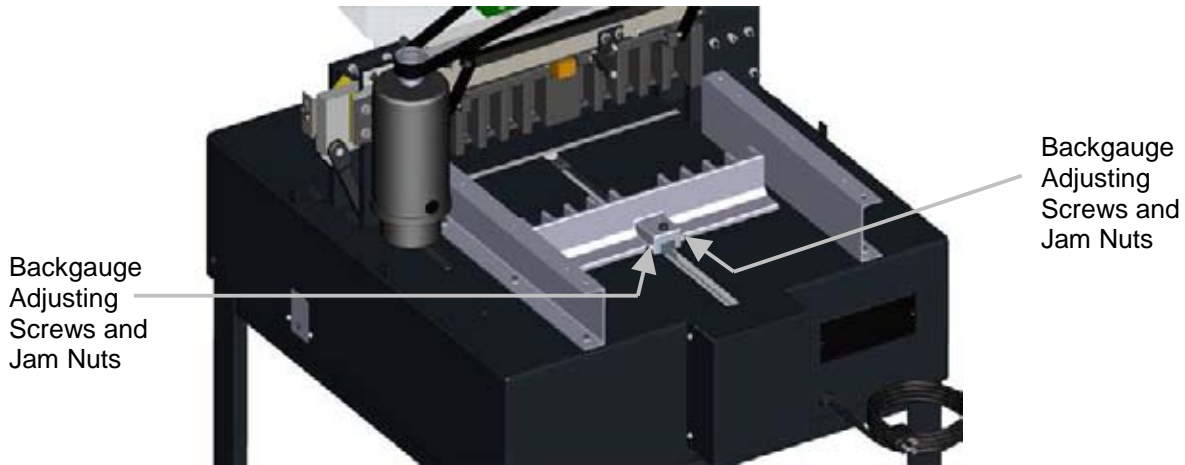

Figure 6
3. Loosen the jam nuts on the backgauge adjusting screws (Figure 6, page 14).